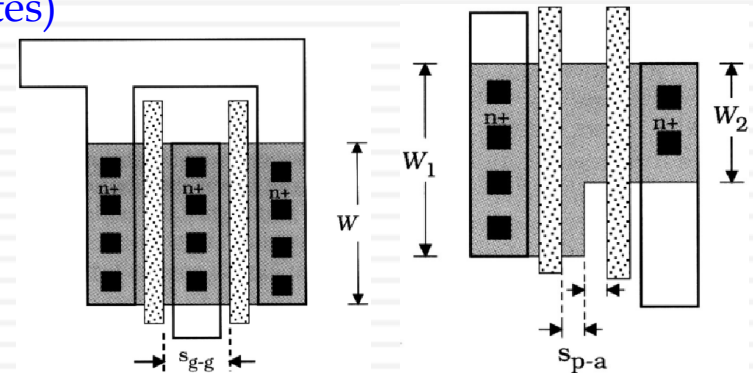

Figure 5.18 Parallel-connected nFETs
- Example: Parallel-connected FETs as Figure 5.18